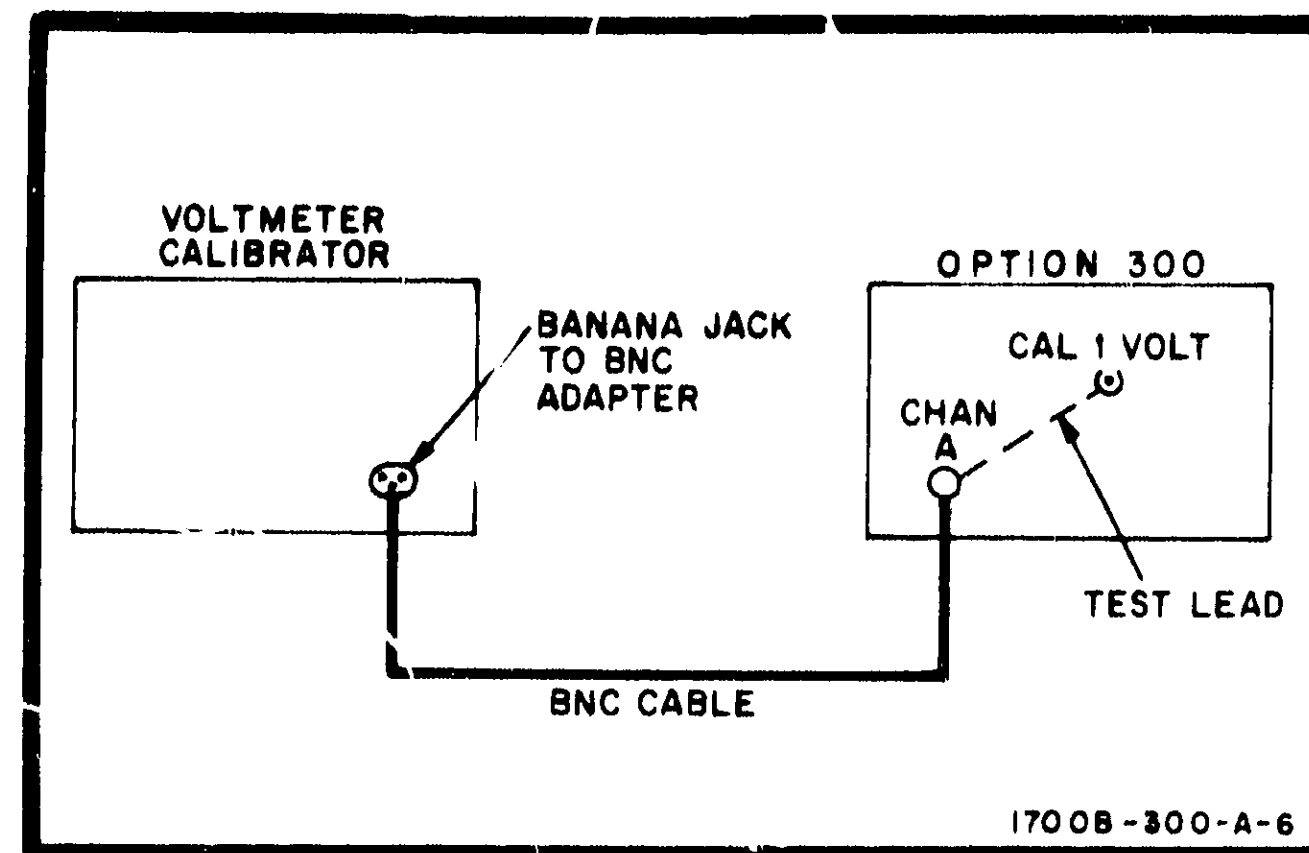

Figure 5-9. Calibrator Test Setup
a. Connect instruments as shown in figure 5-9.